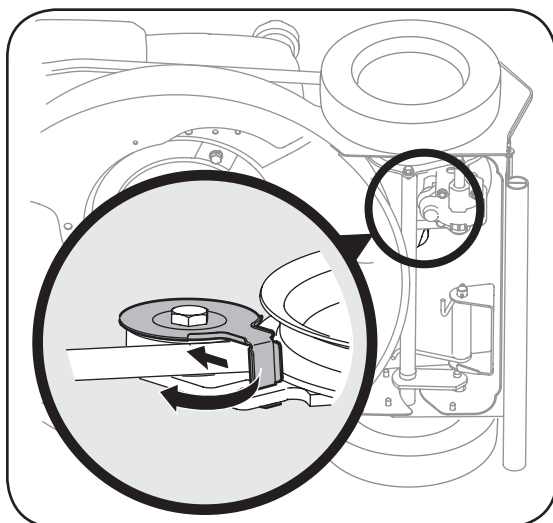

Figure 5-7: Rotate belt keeper to free the belt.
9. Using a pair of pliers, pull back and rotate belt keeper from the slot on the idler bracket. See Figure 5-7.